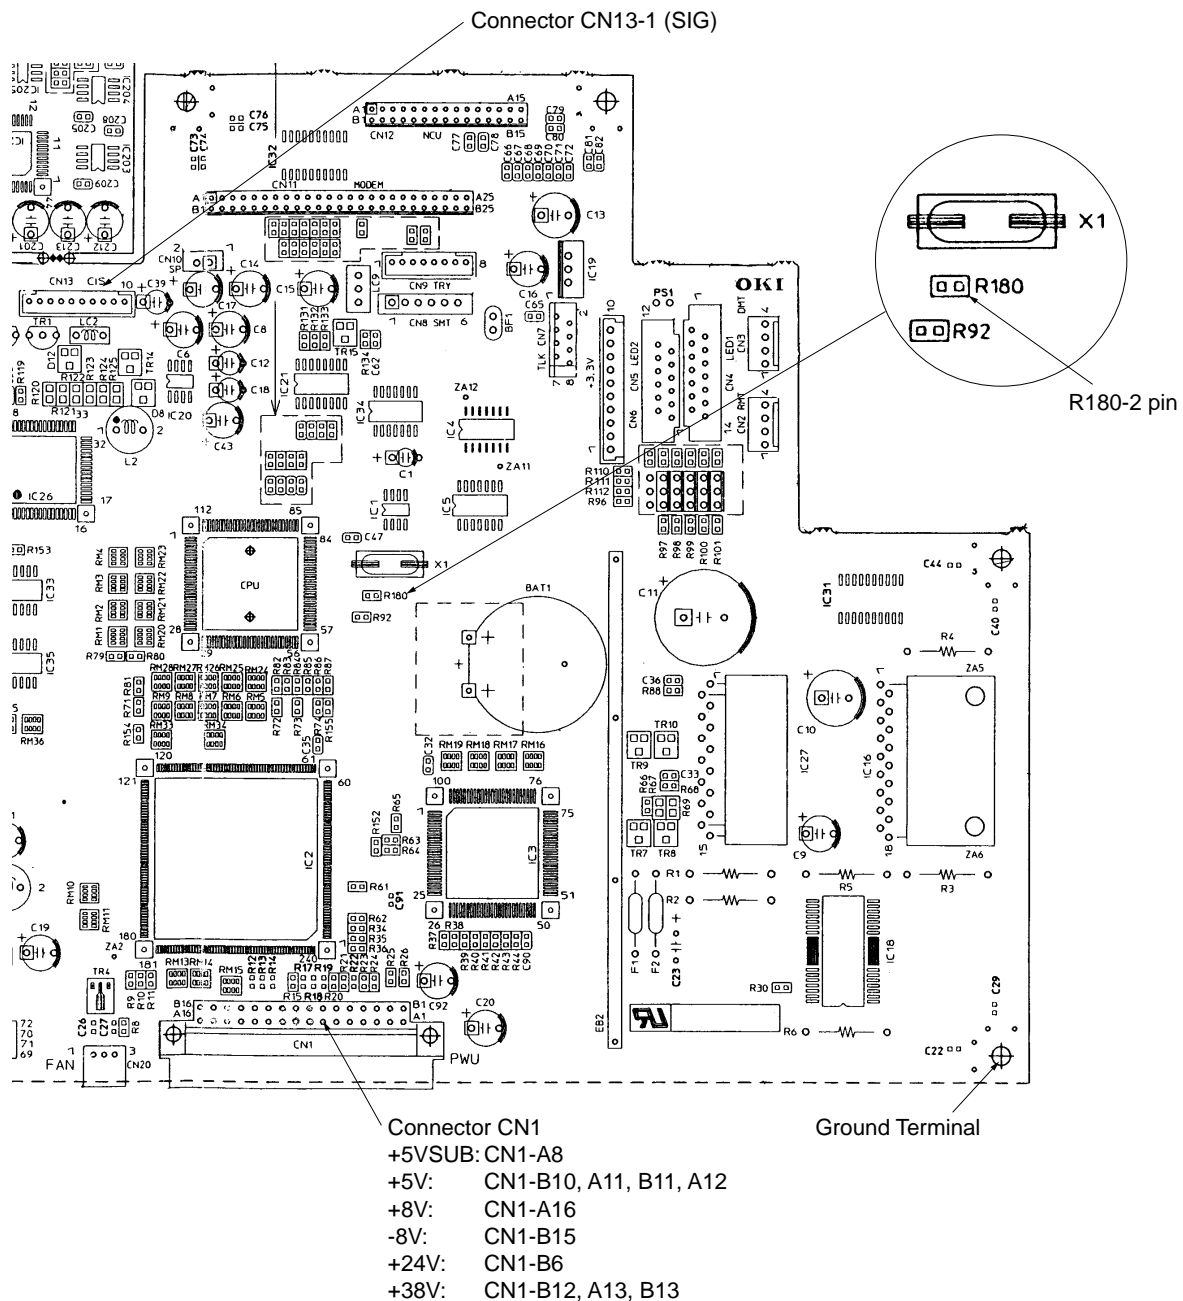

Figure 5.2.1 Measurement Points on R76 Board
- 4) Connect the frequency counter (for clock frequency), digital voltmeter (for power voltage) and Oscilloscope (for SIG signal). See figure 5.2.1.